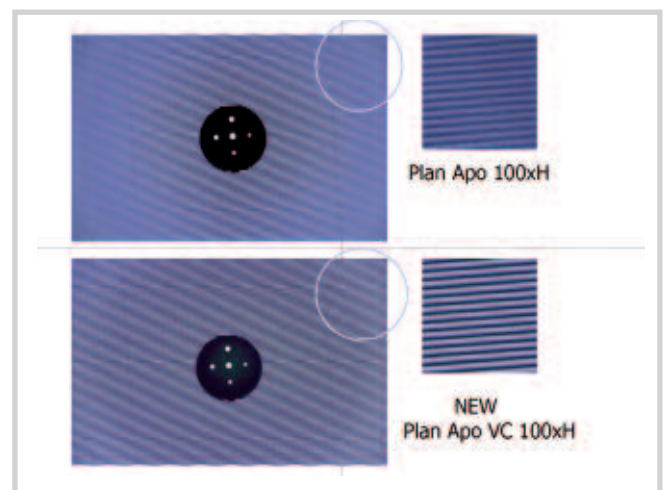

Fig 3: Comparison of normal (top) and violet corrected (bottom) Plan Apochromat oil-immersion objectives.
Plan Fluor objectives are available for increasingly popular fluorescence contrast techniques and Super Fluor objectives for special applications requiring ultraviolet excitation. Plan Fluor objectives are essentially Plan Achromat-style lenses with respect to correction but, because of different glass selection, show higher transmission in the infrared (IR) and blue violet (BV) parts of the spectrum. Plan Fluor lenses are also designed to correct for green (588 nm, d line). The recently developed Plan Apochromat violet-corrected (VC) series additionally cover the h line (405 nm), totally correcting axial chromatic aberration for five lines ranging from 405-656 nm (figure 2). This lens is also vignetting-free: the resolution of the objective lens is even across the entire field of view (figure 3) making it an ideal choice for digital photomicrography.